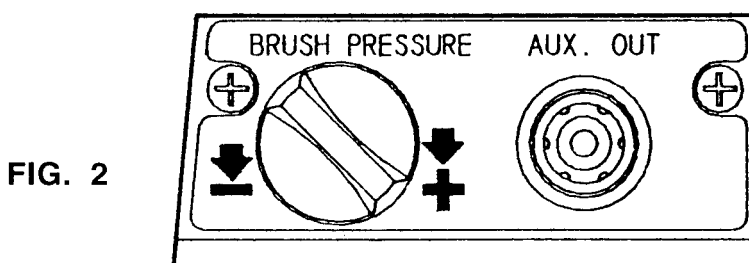

FIG. 2
2. Turn on vacuum switch (1).
3. Turn on brush switch (2).
5. Adjust brush pressure (figure 2) at rear of machine, until brush pressure gauge reads in green zone.
7. Pump auxiliary when using separated floor tool or upholstery tool, switch must be switched to on position. See figure 2 for solution hose hook up - aux. out.
See figure 2 for brush adjustment knob location. Adjustments past the green zone on gauge will shorten brush and brush drive motor life.